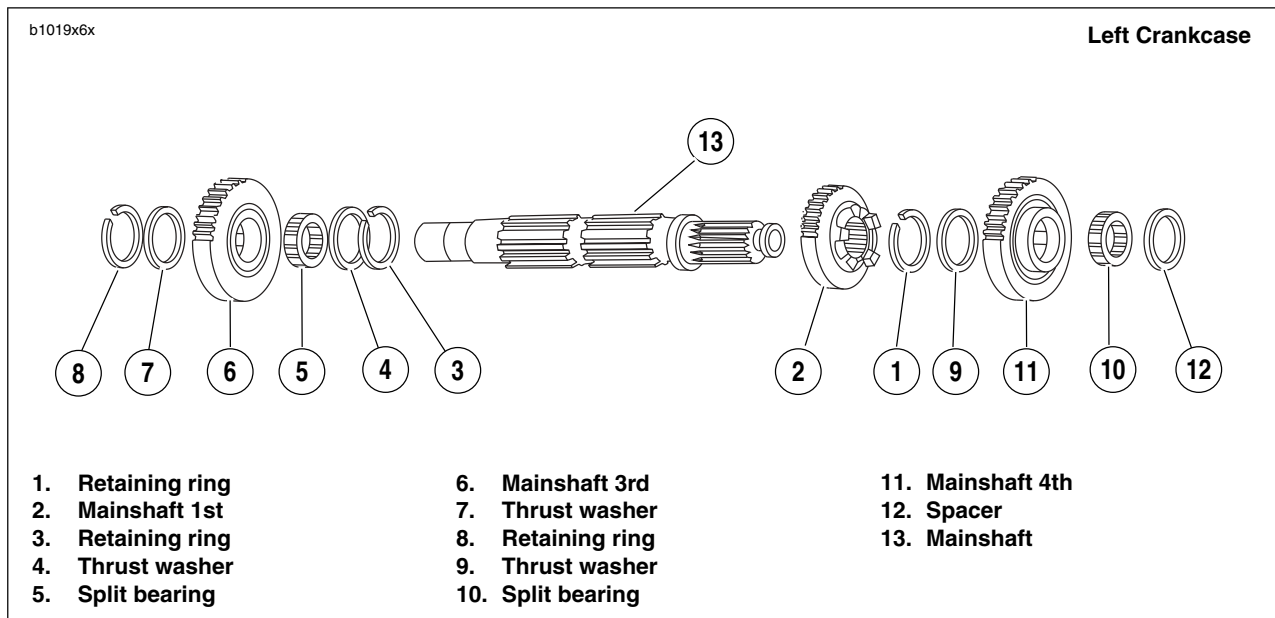

Figure 6-66. Transmission Mainshaft Assembly/Reassembly
1. See Figure 6-66. Install **new** retaining ring (1) onto mainshaft in the first ring groove from the threaded end of the mainshaft.
2. Slide mainshaft 1st gear (2), identified by two grooves in gear teeth, onto mainshaft with the fork groove facing mainshaft 4th gear (10).
3. See Figure 6-66. Install **new** retaining ring (3).
- a. Install thrust washer (4) onto mainshaft.
- b. Install split bearing (5) onto mainshaft.
- c. Install mainshaft 3rd gear (6) onto shaft over bearing (5). 3rd gear is installed with shifting lugs away from 1st gear mainshaft.